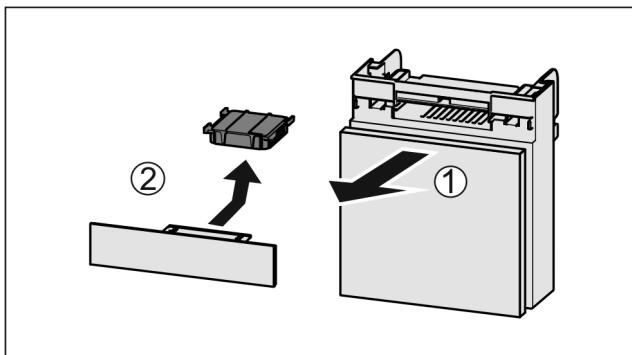

Fig. 115
- ▶ Pull out the compartment Fig. 115 (1).
- ▶ Remove the carbon filter Fig. 115 (2).